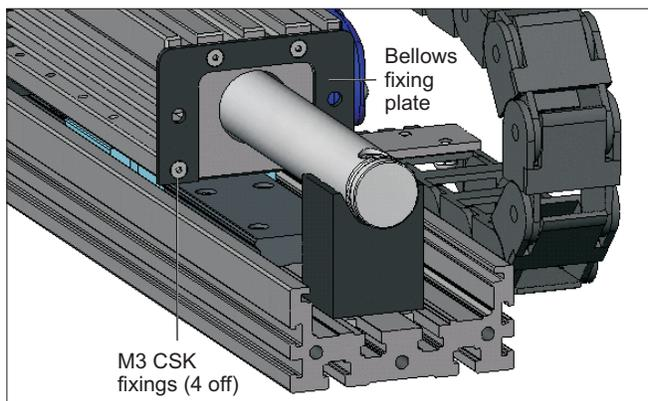

Figure 3.9
- Fold the bellows (not shown) still connected to the system end plate, back over the top of the forcer body to give access to the fixings that secure the bellows fixing plate to the forcer, see Figure 3.9.